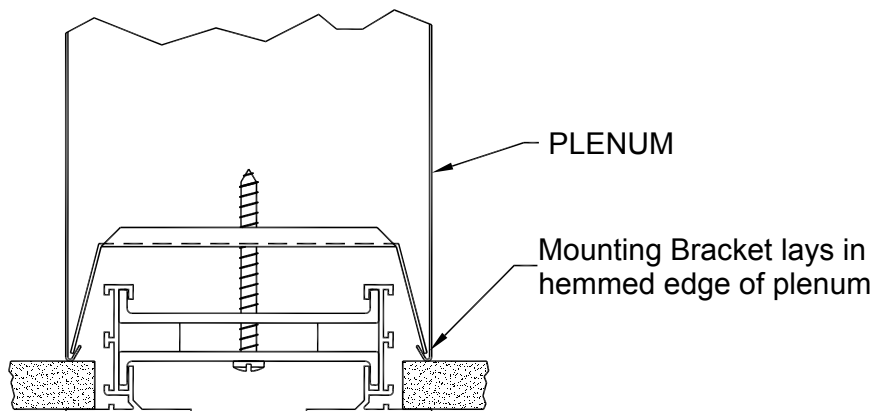

Figure 7. Finished Installation of Diffuser in Ceiling
- Figure 7 depicts the finished installation of the diffuser and plenum in the hard ceiling.